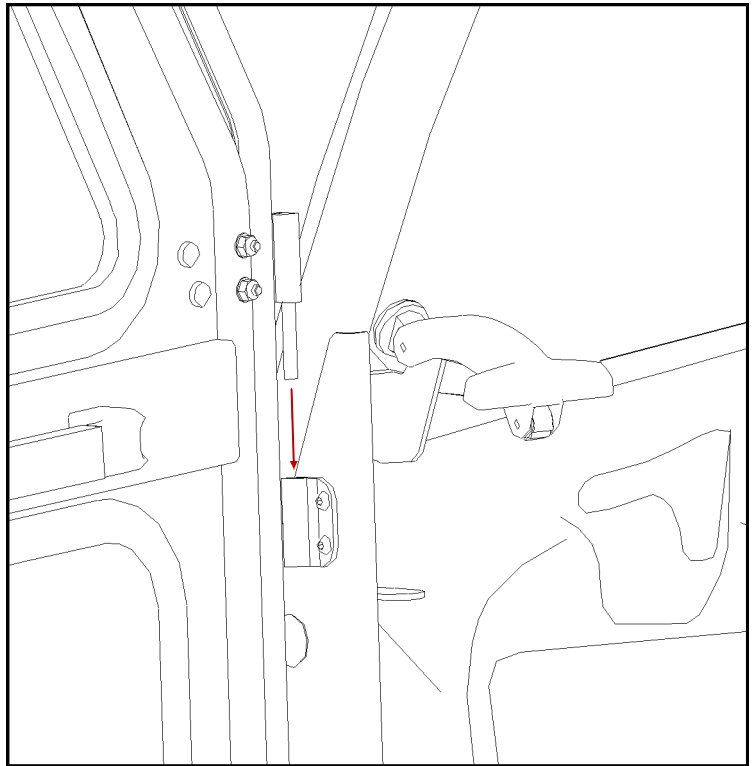

Figure 2: Door hinge pins into frame sleeves
- 2 Holding the door perpendicular to the vehicle, lower the door hinge pins into the hinge sleeves on the frame. (**Figure 2**).